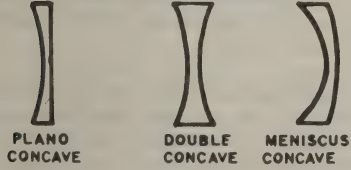

Fig. 1 Six Basic Lens Types
**LENS TYPES:** Lenses come in six basic forms. These are illustrated in fig. 1. Notice